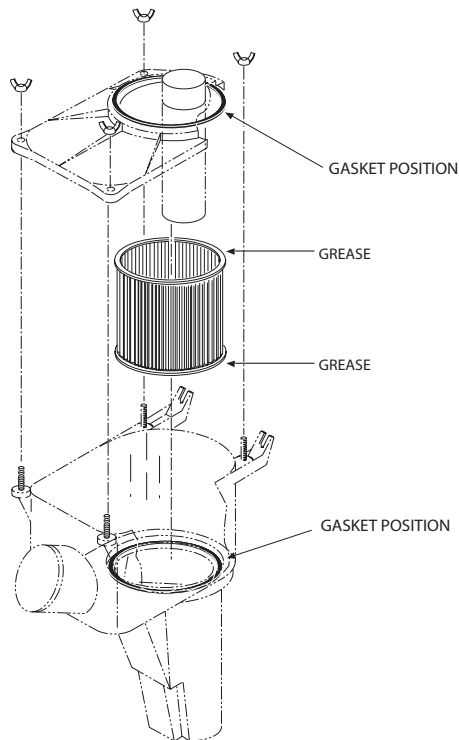

Fig. 1
2. Carefully clean the inside of the air box where the gaskets will be applied. (Fig. 1)
3. Apply the two provided gaskets to the air box base and air box lid. (Fig. 1)
4. Apply a thin layer of the provided K&N Sealing Grease to the sealing ends of the K&N Filtercharger®. (Fig. 1)